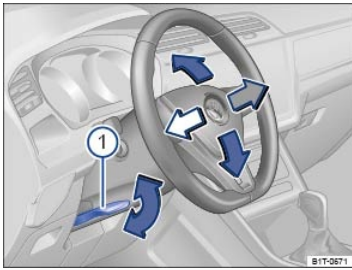

Fig. 76 Manual adjustment for the steering wheel position.
- Push down on the lever ⇒ Fig. 76①.
- Always pull the lever ⇒ Fig. 76① firmly upward after adjusting the steering column so that the steering wheel does not change position suddenly while the vehicle is moving.